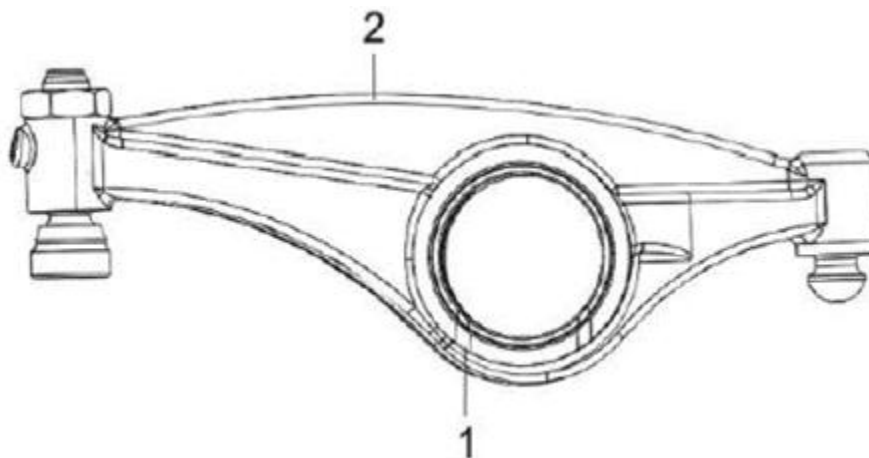

Figure 68. Rocker Arm
- Ensure the lubrication holes (Figure 68, Item 1) in the rocker arm shaft are oriented correctly with respect to the rocker arms (Figure 68, Item 2).